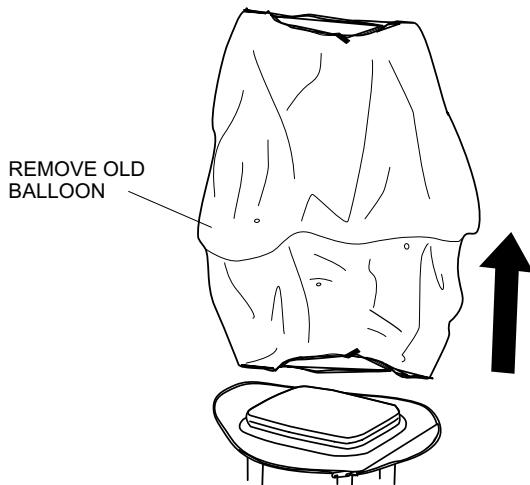

Figure 28. Removing Old Balloon
2. Slide out the old or worn balloon over the top of the lamp guard assembly. See Figure 28.